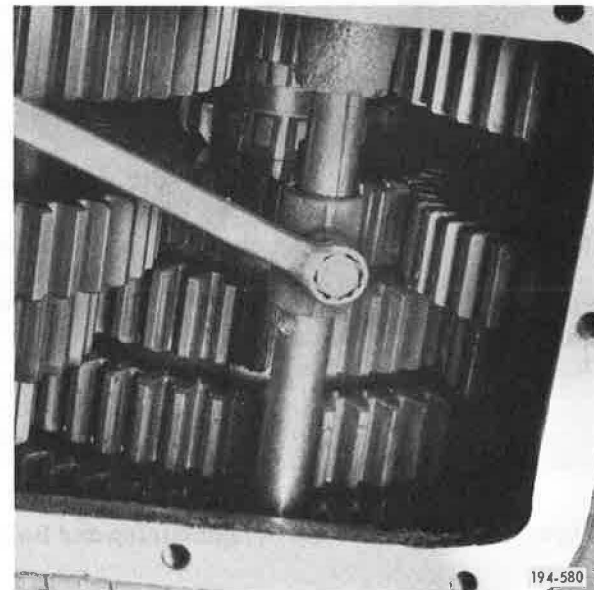

Figure 5-243. Removing Setscrew
21. Remove second/third speed shifter setscrew. See Figure 5-243.